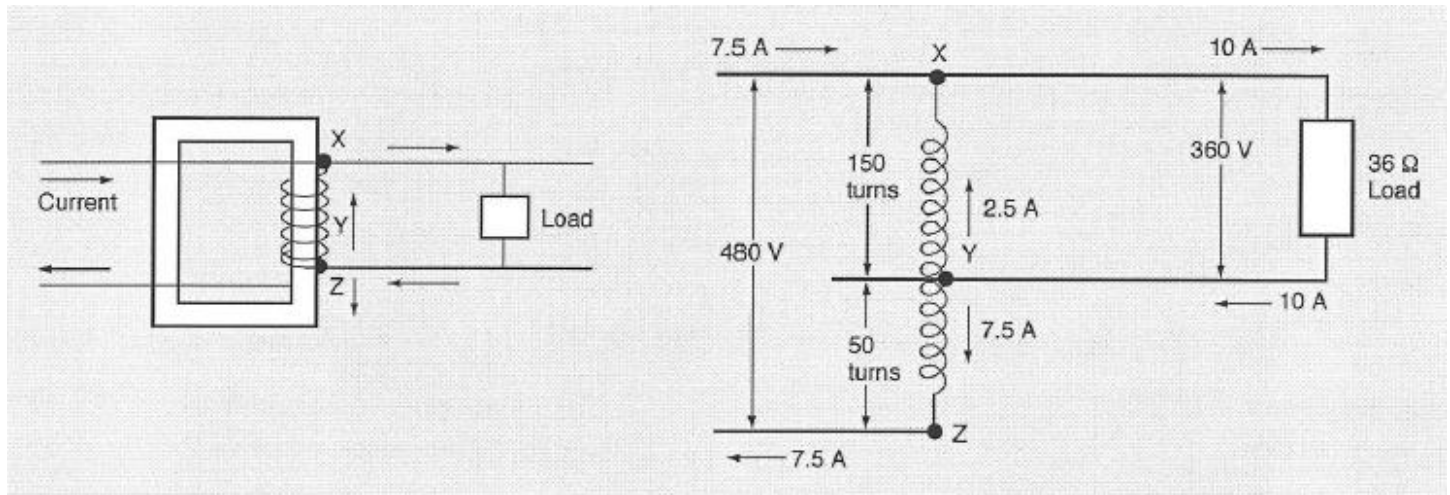

Figure 8.10: Autotransformer
8-47 The prefix *auto* means *self*. An autotransformer is a self-induced transformer. It has the primary and secondary windings electrically connected, as shown in Figure 8.10. When the transformer is used as a step-down transformer, the entire winding serves as the primary winding. The section XY is common to both the primary and secondary windings.
8-49 For example, the autotransformer in Fig. 8-10 has a total of 200 turns. Section XY has 150 turns, and section YZ has 50 turns. A potential difference of 480 V is applied across the transformer winding. The potential difference is therefore 360 V between X and Y, and 120 V between Y and Z.
- 8-53 If you now apply Kirchhoff's point rule to point Y, you can see that the current in section XY of the winding is only 2.5 A. The diagram in Figure 8.10 shows the currents in each path connected to point Y.